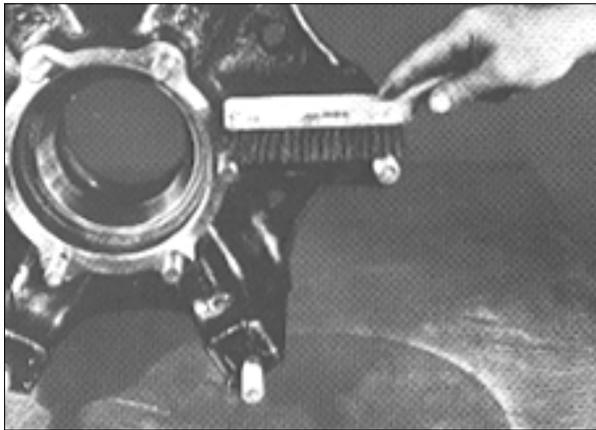

Figure 2 - Mounting surface of the wheel is the inboard 28 degree taper on the spokes.
1. Using a wire brush, clean the spoke wheel and rim mounting surfaces making sure that they are free from damage, dirt or rust. (Figure 2)